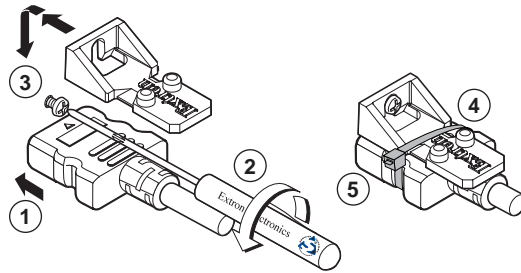

Figure 4. Installing the LockIt Lacing Bracket
4. Loosely place the included tie wrap around the HDMI connector and the LockIt lacing bracket as shown (see figure 4).